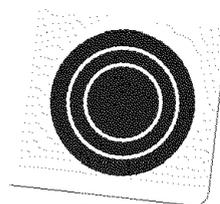

Fig. 5
4. Select the INNER (Fig. 3), MIDDLE (Fig. 4) or ALL 3 element (Fig. 5) to heat by touching the  key pad.